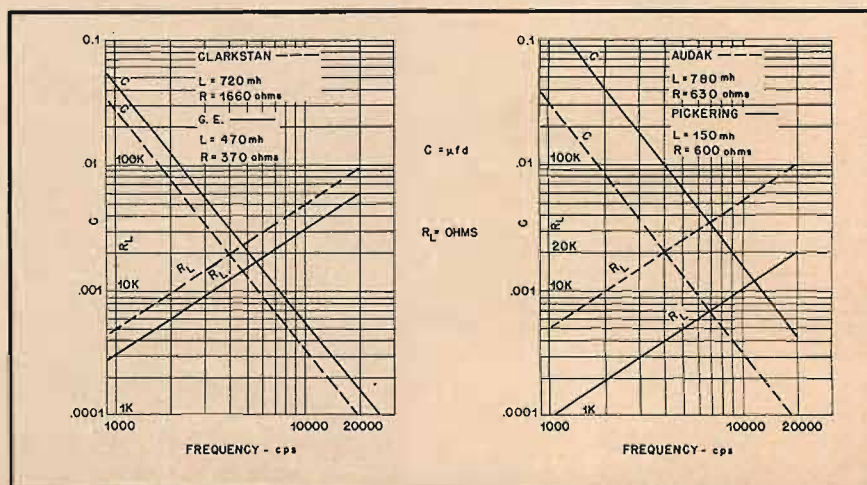
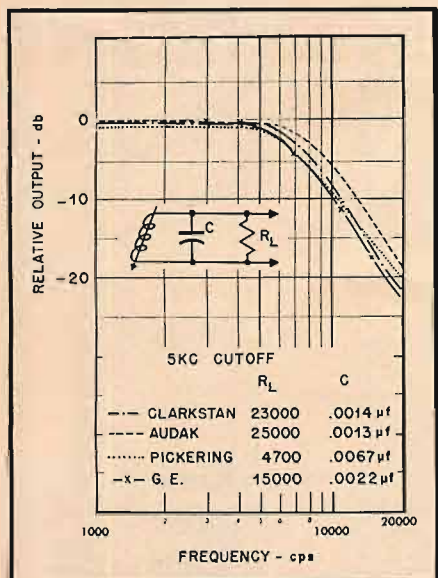

Fig. 5. Values of R_L and C for various cutoff frequencies for the four pickups.
Fig. 14. Curves showing 5000-cps cutoff with the four pickups when shunted by resistors and capacitors shown in the legend.
When the values of R_L and C satisfy the relationships expressed by Eqs. (3) and plotted in Fig. 5, a low-pass constant- K filter network results. To indicate the kind of result to be expected with each of the four pickups, Fig. 14